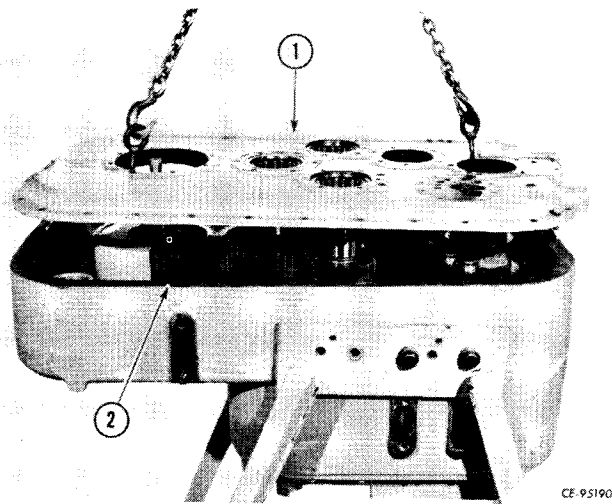

Figure 4-66
Place new gasket (2, Fig. 4-66) on transmission housing and use grease to hold in place. Support cover (1) on hoist as level as possible. Gently lower cover, aligning first and third and second and fourth clutch shafts with bearings in cover. Reach through the front side of cover with two screw drivers to align oil transfer tubes. Lower cover and align on dowels. Gently tap cover down, do not force cover by pulling it down with bolts. Install cap screws and lock washers. Tighten cap screws to recommended torque (refer to "SPECIAL TORQUES").